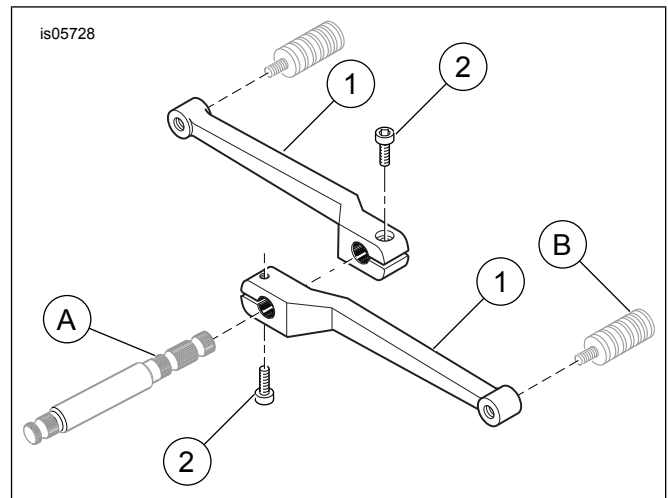

Figure 1. Service Parts: Shift Lever and Fastener Kit
See Figure 1 and Table 1.
3. See Figure 1. Position the toe shifter lever (1) with the counterbored hole on the underside of the lever. Adjust the lever position to the desired angle and slide it onto the splined shaft (A), aligning the screw hole axially with the innermost groove on the shaft.
4. Position the heel shifter lever (1) so the screw hole counterbore is on the top side of the lever. Adjust the lever position to the desired angle and slide it onto the splined shaft, aligning the screw hole axially with the outermost groove on the shaft.
5. Install the 5/16-18 socket head screw (2) into the counterbored hole. Tighten the screw to 24–30 N·m (18–22 ft-lbs).
6. Apply a few drops of Loctite 243 (blue) onto the shifter peg (B) threads and install the shifter peg onto the new shift lever.